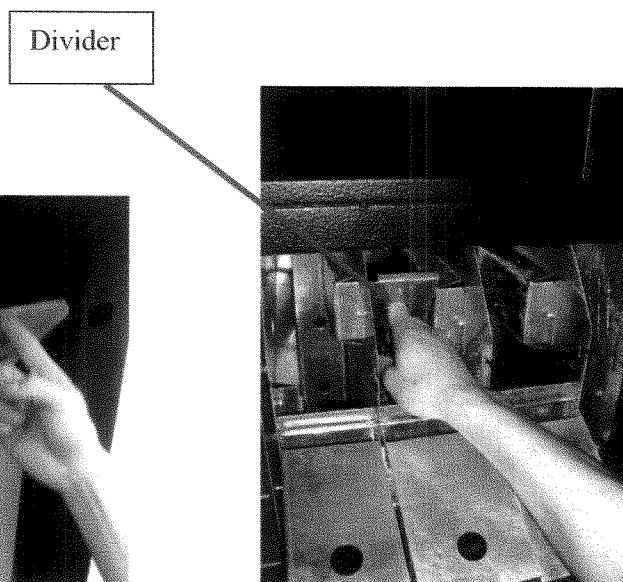

Figure 15 – Pull divider toward you.
- b. Pull the divider towards you to access the “back” section. (*reference figure 15*).